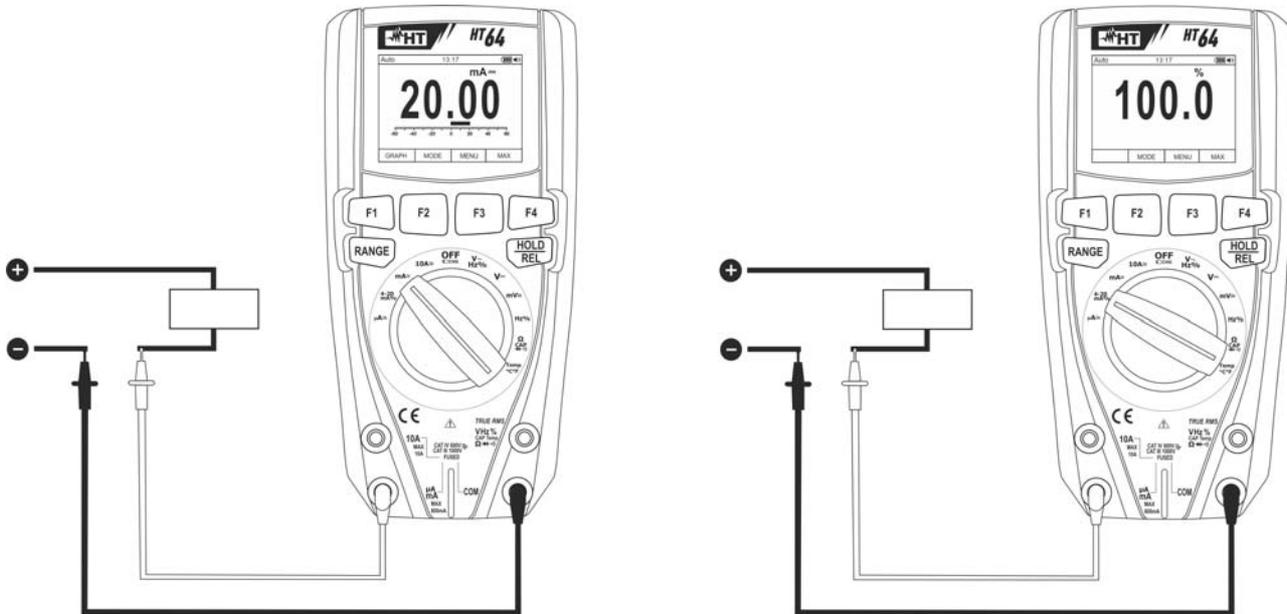

Fig. 29: Use of the instrument for DC current measurement and 4-20mA% reading.
4. Connect the red lead and the black lead in series to the circuit whose current you want to measure, respecting polarity and current direction (see Fig. 29).
6. The value of DC current (see Fig. 29 – left side) appears on the display.
7. The value of reading 4-20mA% (0mA = -25%, 4mA = 0%, 20mA = 100% and 24mA = 125%) (see Fig. 29 – right side) appears on the display. The bargraph is not active in this function.
9. When symbol “-” appears on the instrument's display, it means that current has the opposite direction with respect to the connection in Fig. 29.